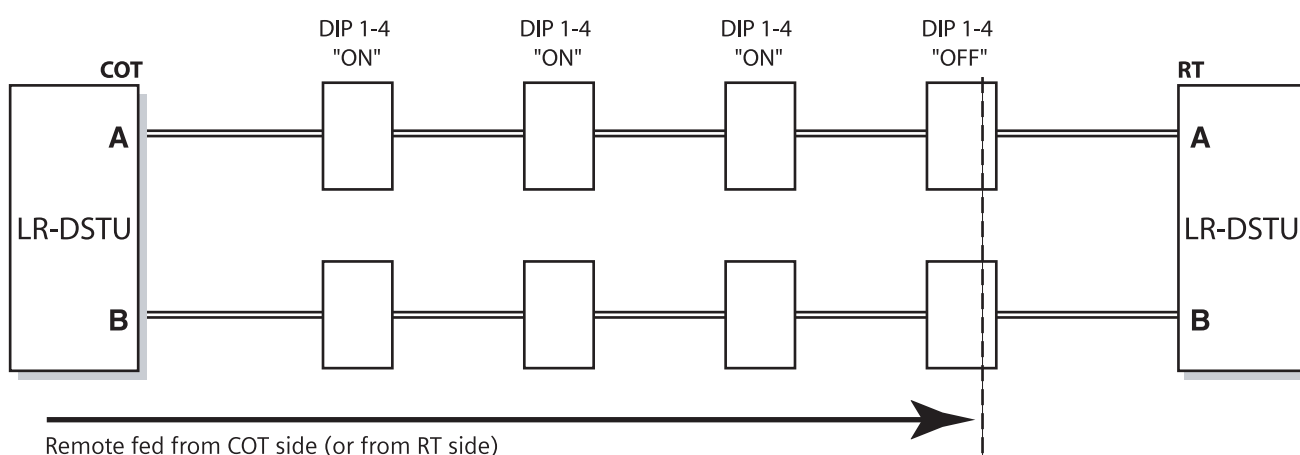

Fig. 2.210 Possible configuration of the remote power supply with use of 4 LR-SRUs
- with use of 4 LR-SRUs per system (Fig. 2.210) and